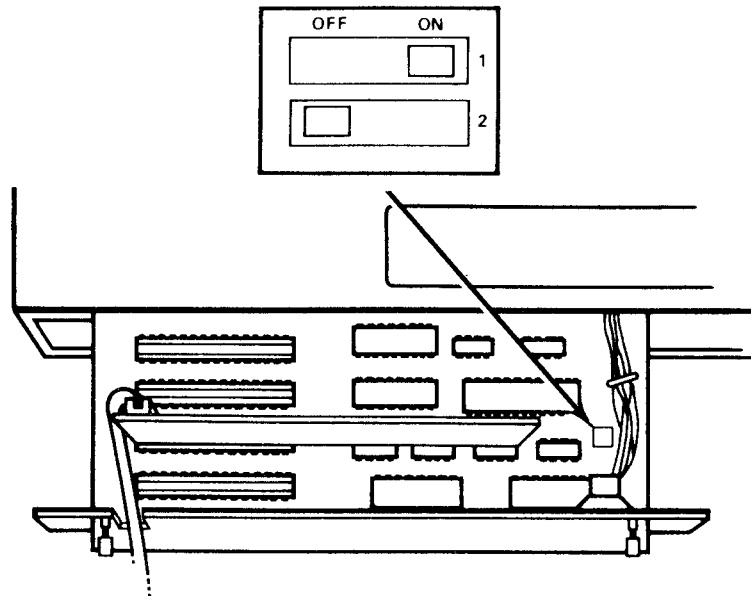

Figure 17. Rev 03 Boot Switch Settings
The address of the first word of every 256th location is written into dynamic RAM for the first one megabyte of that memory, and then read back. The first bank must return the correct value when read. Incorrect values from the third and fourth bank will cause the system to assume that those banks were not loaded. Next, an incrementing pattern is written across all dynamic RAM and verified; the pattern increments by one byte with an extra increment each 256 locations. If this test is successful, zeros are written throughout the RAM, the display is turned on (0-VIDOFF), and a boot message appears. If the boot switches on the Processor Board are set for a choice of booting device (see Figure 17 and 18 for switch settings), the following message will appear:
Verify that the boot switches are set properly for the boot device. (See Figures 17 and 18). For example switches 1 and 2 should be off to boot from OMNINET. Switch 1 should be on and switch 2 off for a flat cable boot. If the switch settings are correct proceed to the next step.
5. The boot microswitches, located across from the I/O slots on the Processor Board, should be set as indicated in Figure 17.
5. Set the microswitches, which are located across from the I/O slots on the Processor Board as indicated in Figure 17.